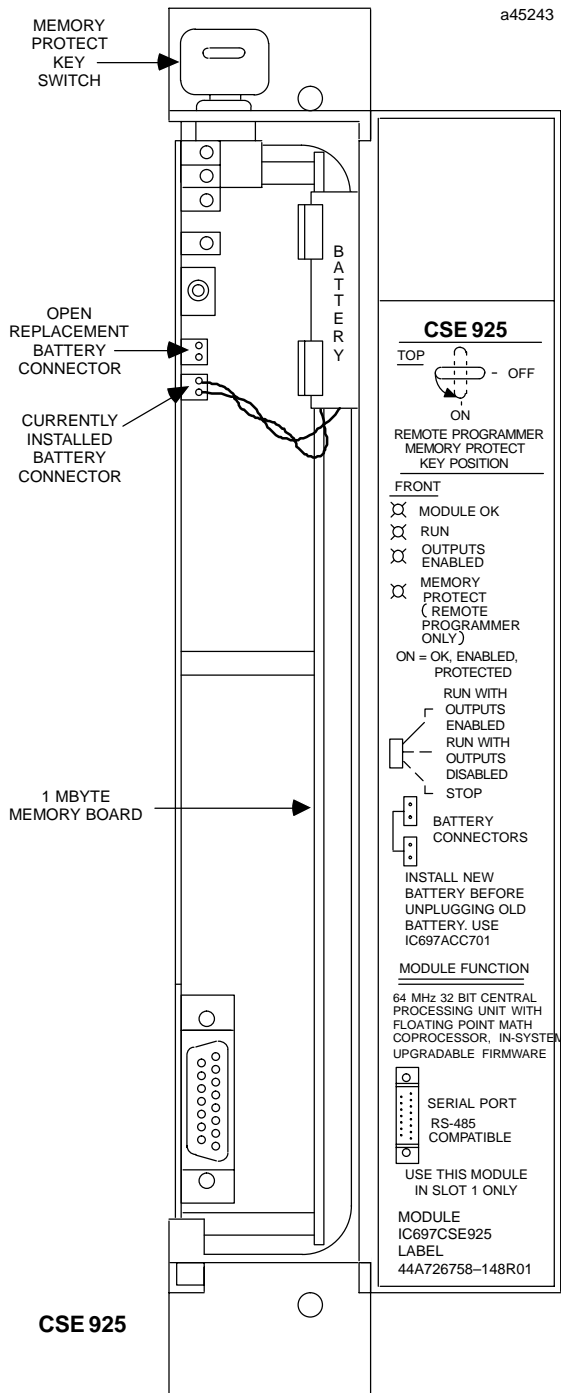

Figure 1. CSE 925 - Location of Major Features
- Connect the battery to either of the battery connectors on the module (see Figure 1).
A lithium battery (IC697ACC701) is installed as shown in Figure 1. This battery maintains program and data memory when power is removed and operates the calendar clock. Be sure to install the new battery before removing the old battery. Specific indication of a low battery state is detailed in Reference 2.